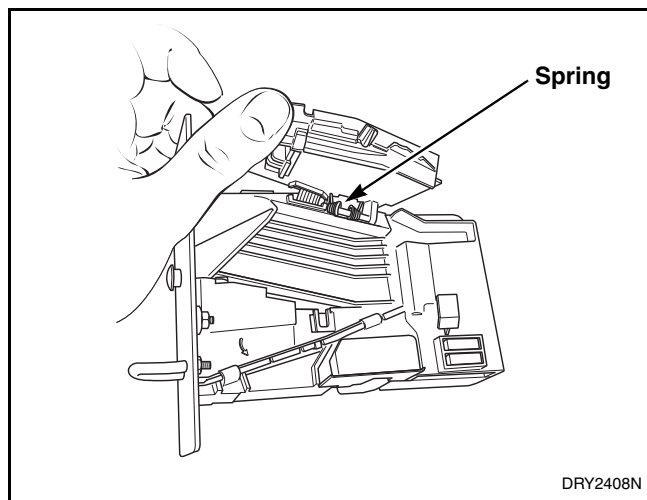

Figure 20
- (3) Open cover of coin drop. Refer to Figure 20.